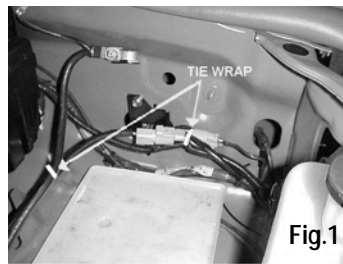

Fig.1
3. Locate the vehicle's gray connector in between the battery and the fender. Remove cap. Install the trailer harness fuse holder connector. Tie wrap the gray connector and fuse harness to the vehicle's wiring, return the battery to its original position (Fig. 1).